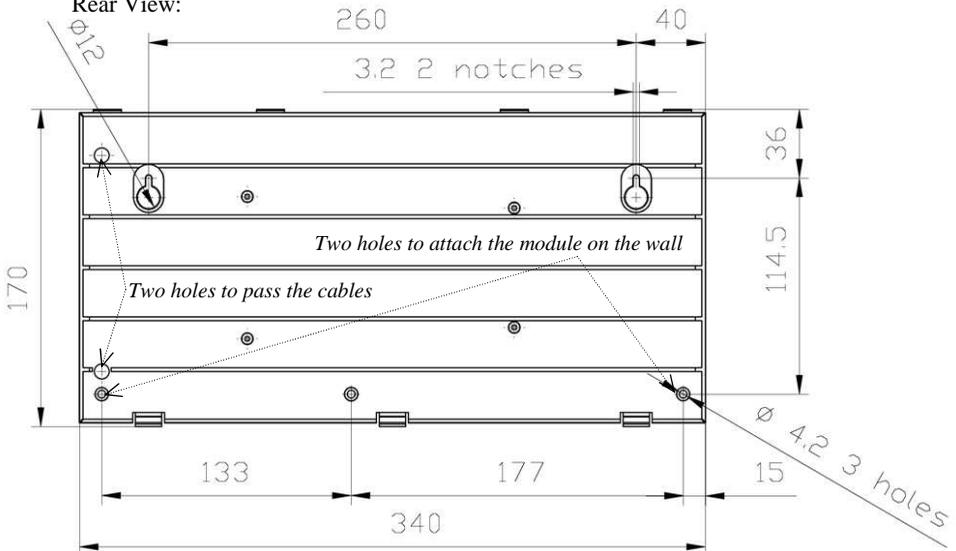

Figure 1. View, Overall and Mounting Dimensions
- 2.1.4. Mark 4 mounting places on the wall in accordance with Figure 1.